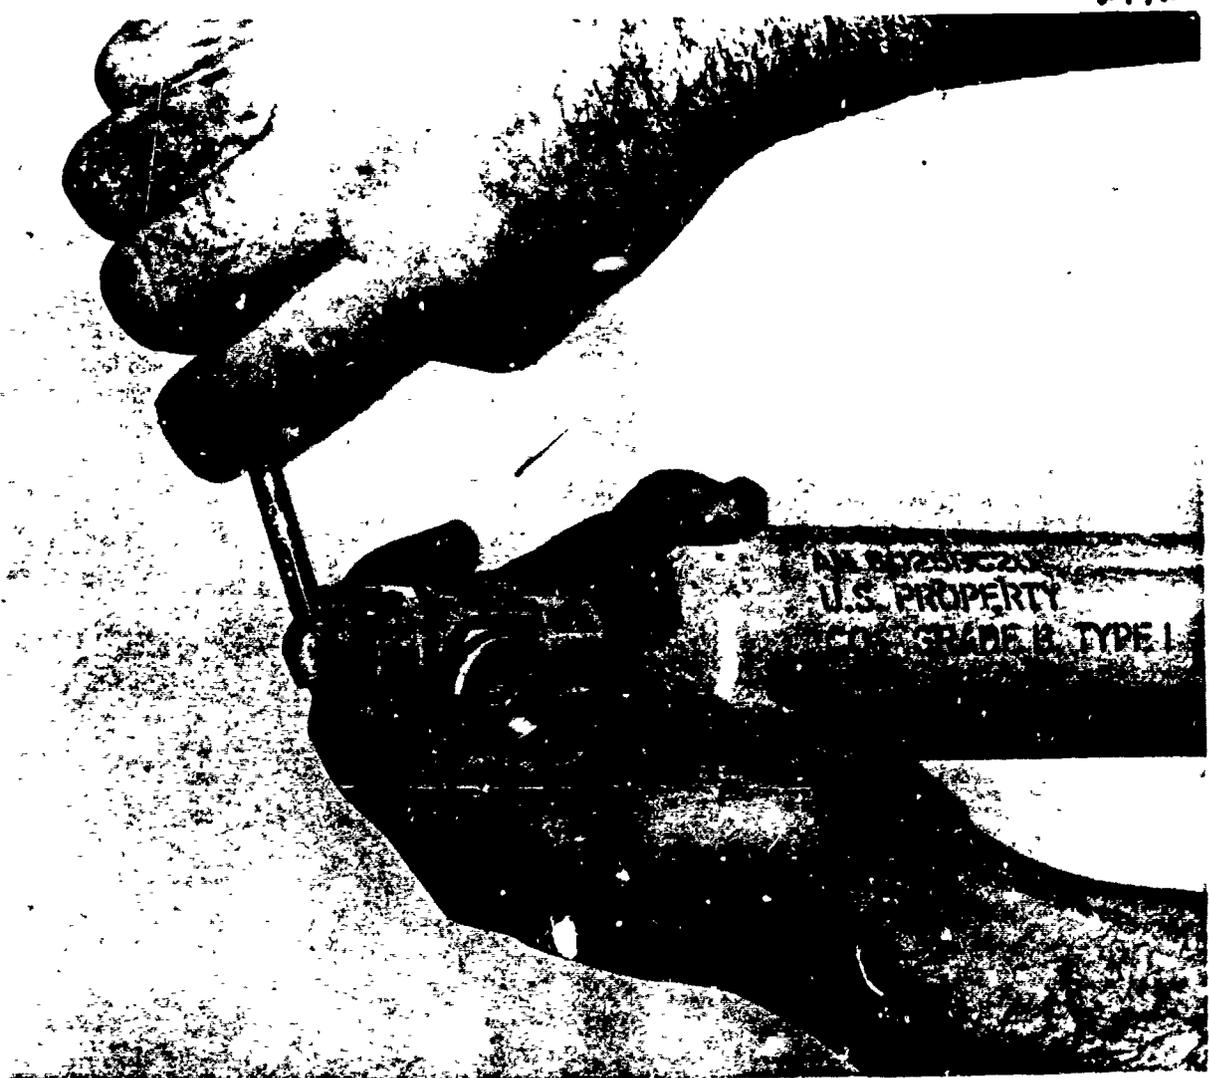

Figure 3. Operating Cam with Metal Rod.
6. Note figure 3. Insert the metal rod provided into the cable ball hole of the cam and operate the cam to open the valve.